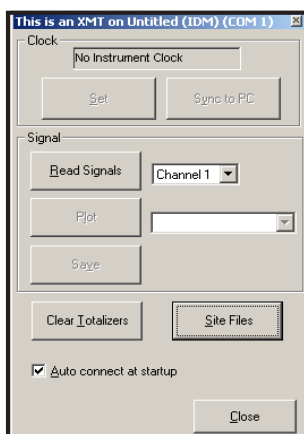

Figure 27: Properties Window
3. The *Properties* window appears similar to Figure 27. To clear the XMT868i totalizers, click on the [Clear Totalizers] button. The XMT868i totalizers are reset to 0.